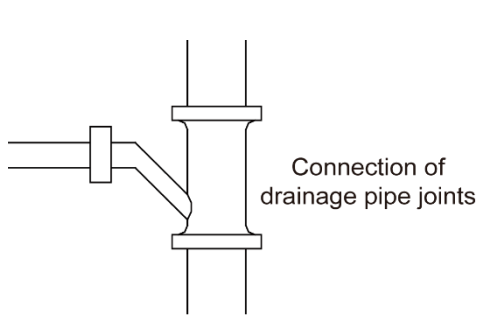

Fig14
- i Connection of drainage pipe joints (Fig14)